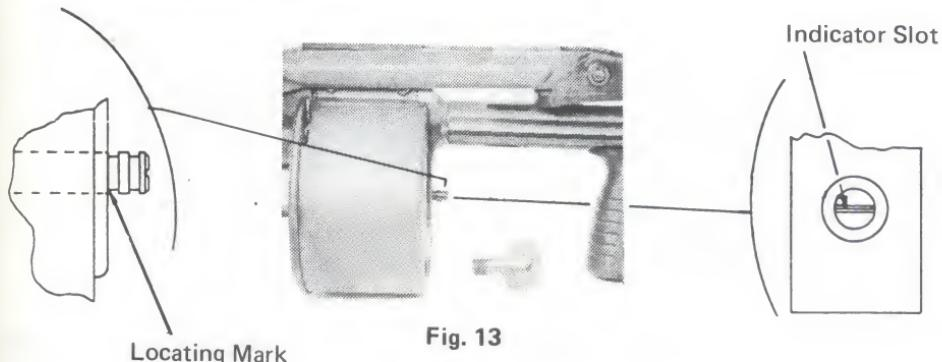

Fig. 13
5. Pull out the centre pivot shaft from magazine using hand only when magazine fully unwound. (Fig. 13).
4. Replace the centre shaft by placing the slotted end into the centre of the magazine spring motor taking note that the indicator slot on the end of the centre shaft is horizontal to the frame (rotate magazine clockwise). Press in until the locating mark is in line with the frame. (Fig. 13).